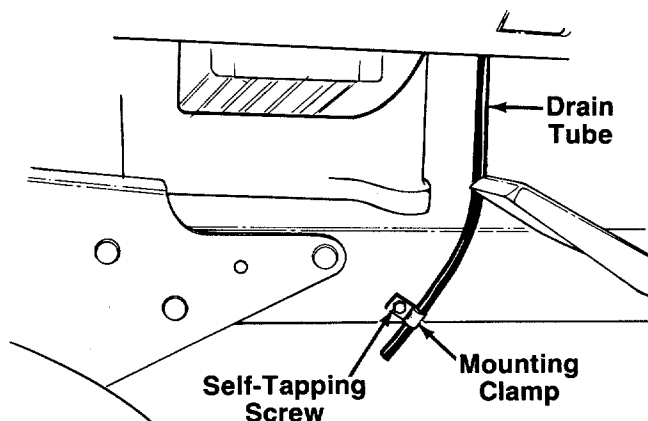

FIGURE 8.
6. Route the battery drain tube over to the left side of the tractor. Slip the end of the drain tube into the mounting clamp provided in hardware pack. Secure the mounting clamp to the tractor frame using the self-tapping screw as shown in figure 8.